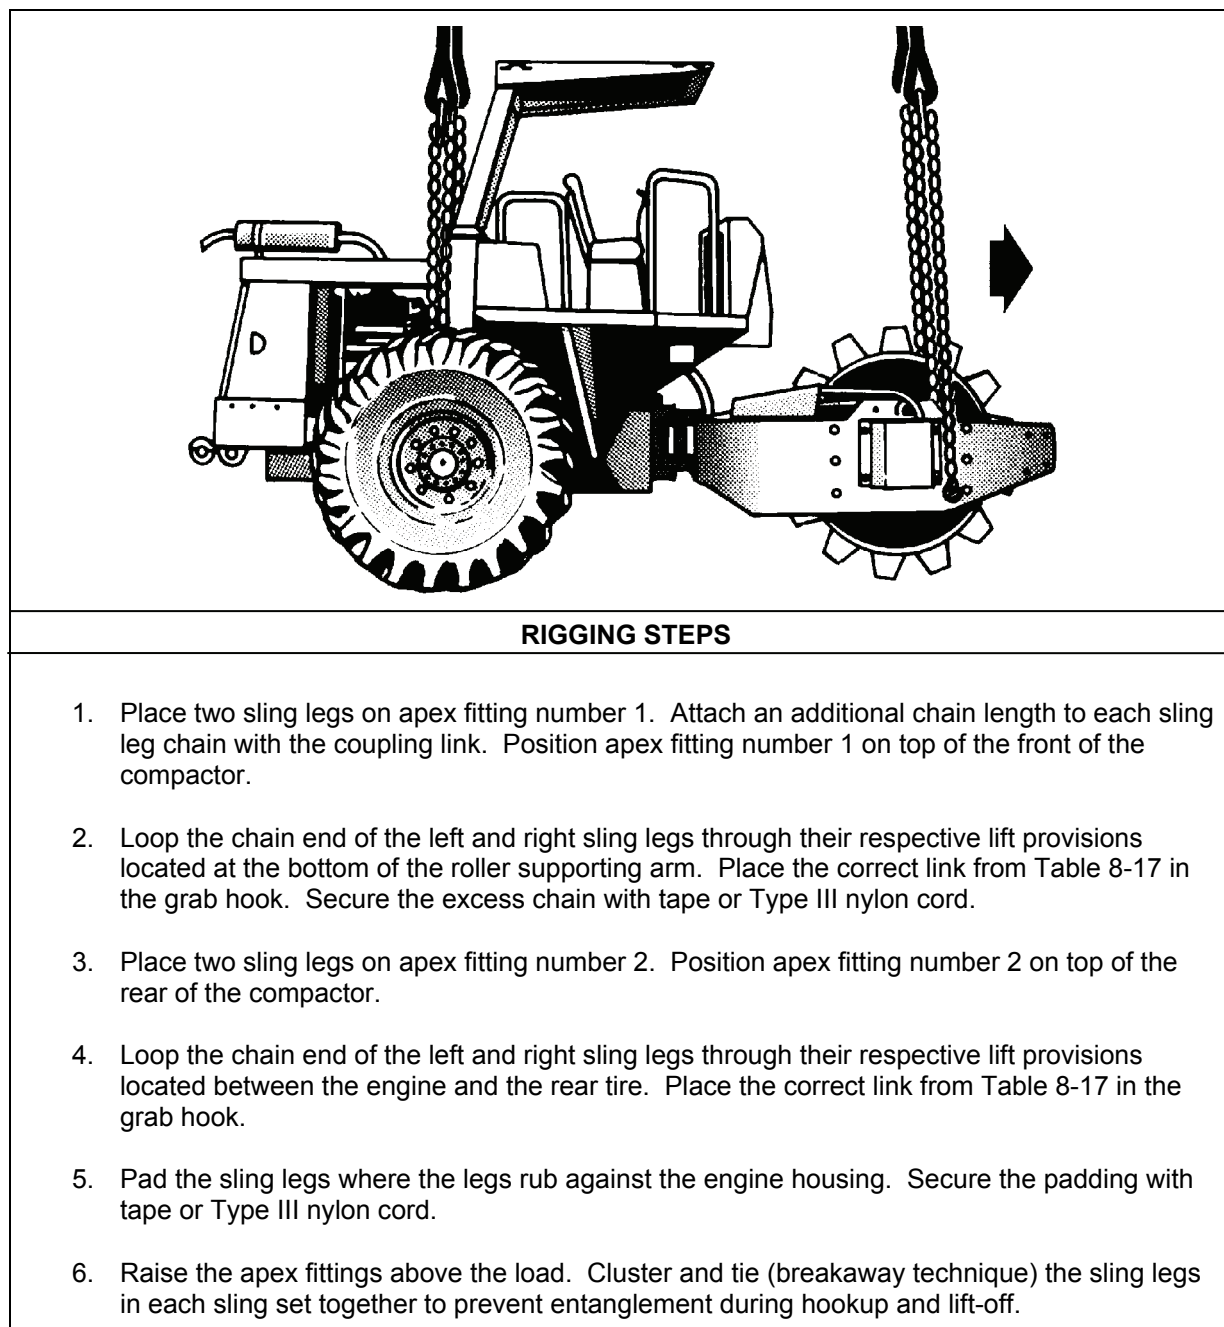

Figure 8-17. Roller, Compactor, Vibrator
- **Rigging.** Rig the load according to the steps in Figure 8-17.